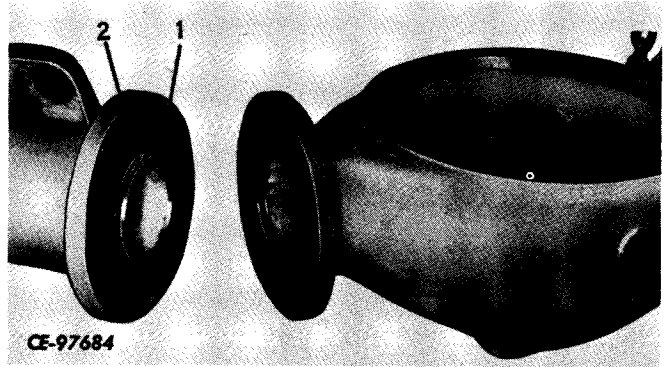

Figure 6-13
Install new "O" ring (2, Fig. 6-13) in position on axle housing (1) boss. Align chisel or punch marks on two housings (1, 3) and secure with cap screws and hex nuts. Tighten cap screws to